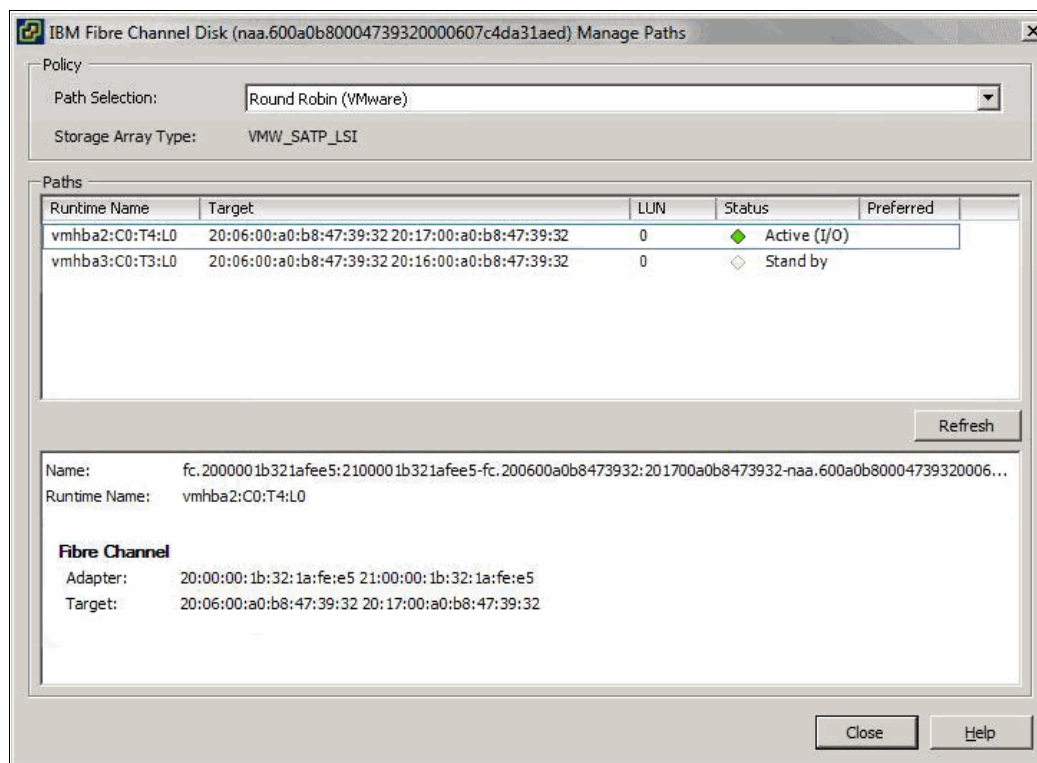

Figure 5-96 Manage Path Policy
5. You should see both paths in the Manage Paths dialogue window, as shown in Figure 5-96.